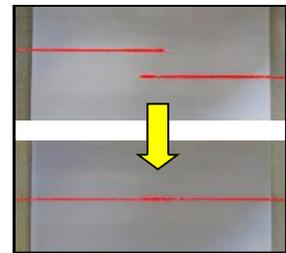

Fig. 1
- 5: Rotate the Laser unit to align the two red lines. (Fig 1)